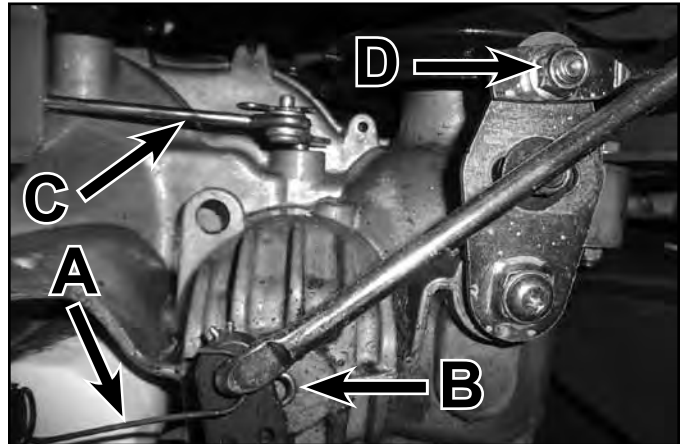

Fig. 077
4. Remove the parking brake return spring (A) from the rod and spring plate.
5. Remove the retaining pin (B) from the brake linkage then remove the brake rod from the hydro arm.
6. Remove the hydro bypass rod (C), retaining clip, and washer then remove the rod from the unit.
7. Remove the hydro control rod nut and bolt (D) (Fig. 077).